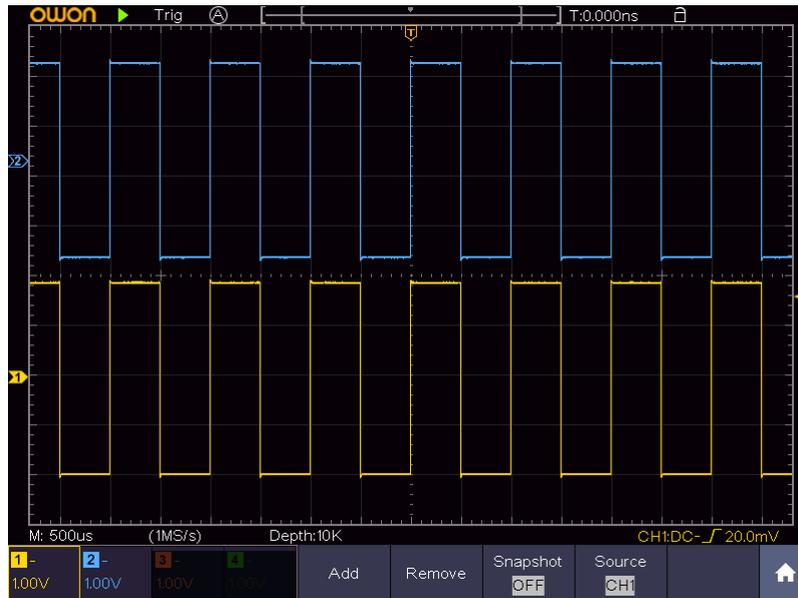

Figure 9-2 Waveform of Gain Measurement
- (1) Push the **Autoset** button and the oscilloscope will automatically adjust the waveforms of the two channels into the proper display state.
- (2) Push the **Measure** button to show the Measure menu.
- (3) Select **Add** in the bottom menu.
- (4) In the left Type menu, turn the **M** rotary control to select **PK-PK**.
- (5) In the right menu, select **CH1** in the **Source** menu item.
- (6) In the right menu, select **Add**. The peak-to-peak type of CH1 is added.
- (7) In the left Type menu, turn the **M** rotary control to select **PK-PK**.
- (8) In the right menu, select **CH2** in the **Source** menu item.
- (9) In the right menu, select **Add**. The peak-to-peak type of CH2 is added.
- (10) Read the peak-to-peak voltages of Channel 1 and Channel 2 from the bottom left of the screen (see *Figure 9-2*).
- (11) Calculate the amplifier gain with the following formulas.